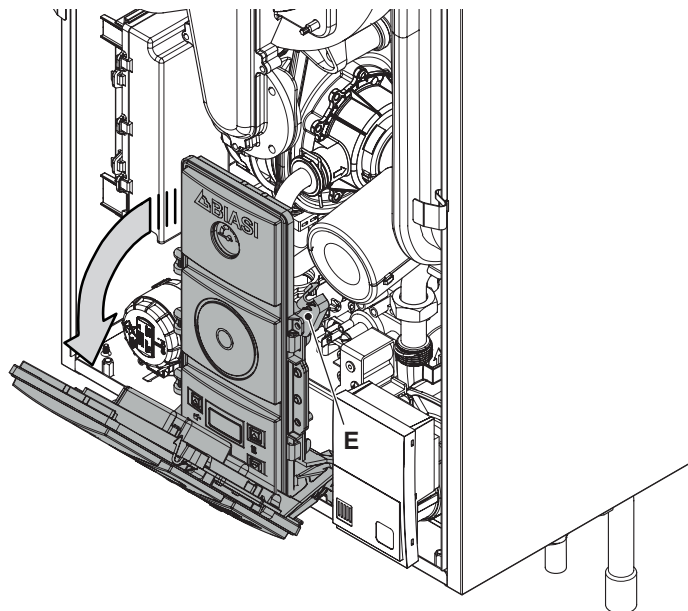

Figure 2.6
- 4 To access to the parts located behind the control panel to free the hook "E" and turn it as shown in Figure 2.6.